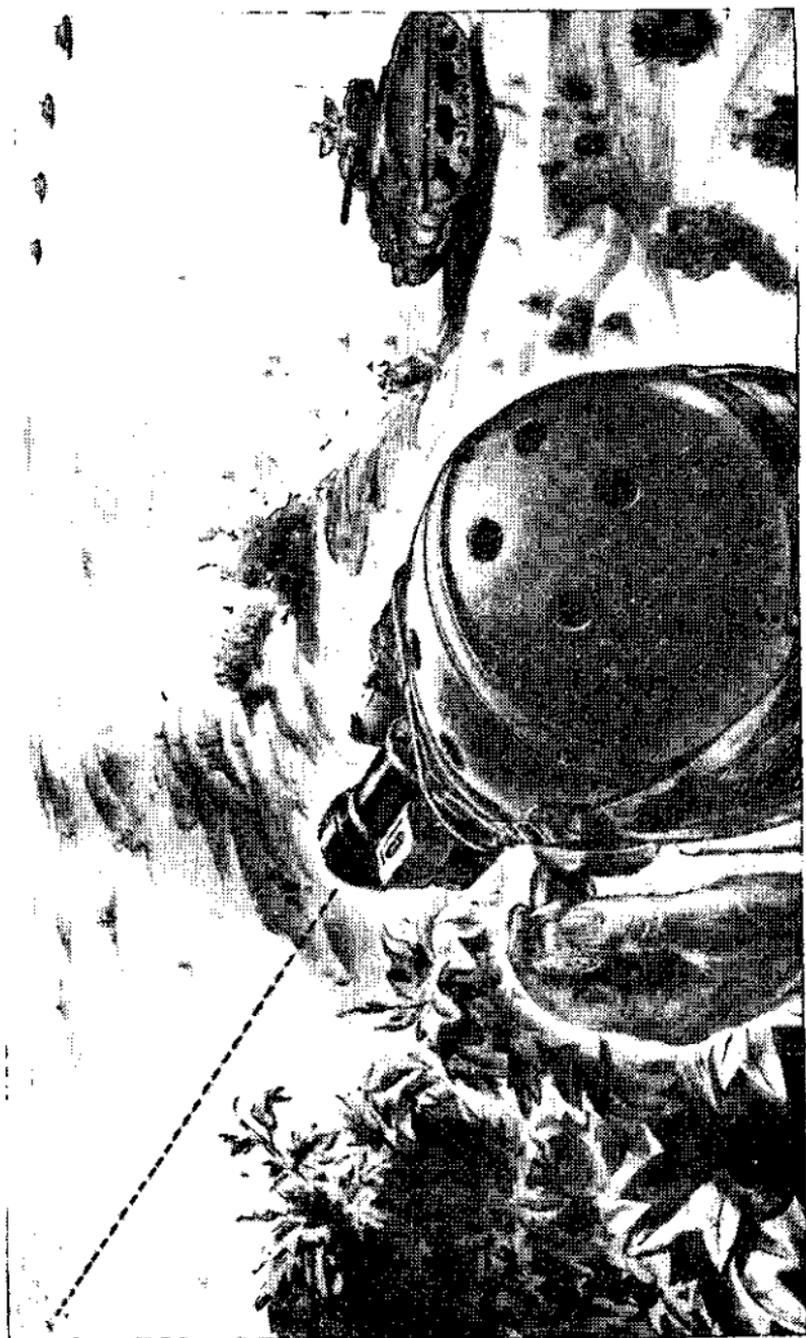

FIGURE 30.—Tank platoon employing indirect laying.
b. Two or more tanks in defilade.—Where two or more tanks are placed in a defiladed position, each tank commander may line in his tank and the target. Usually, where there are more than two tanks, an observer (the platoon commander or platoon sergeant) lays them parallel. (See fig. 30 and par. 63.) One observer (usually the platoon commander or platoon sergeant) always adjust the fire of all the tanks. Communication may require voice relay or radio.